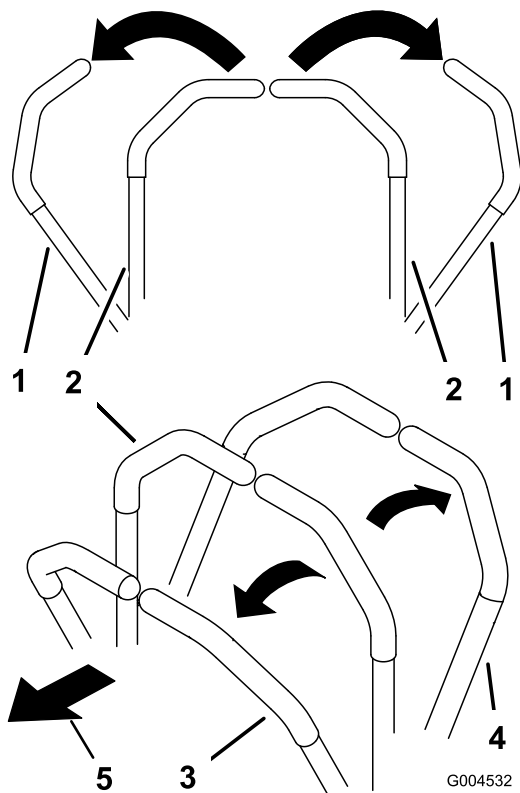

Figure 20
- To move straight forward, slowly push the motion-control levers forward (Figure 20).
- To move straight rearward, slowly pull the motion-control levers rearward (Figure 20).
- To turn, slow the machine by pulling back on both levers and then push forward on the lever on the opposite side from which you want to turn (Figure 20).